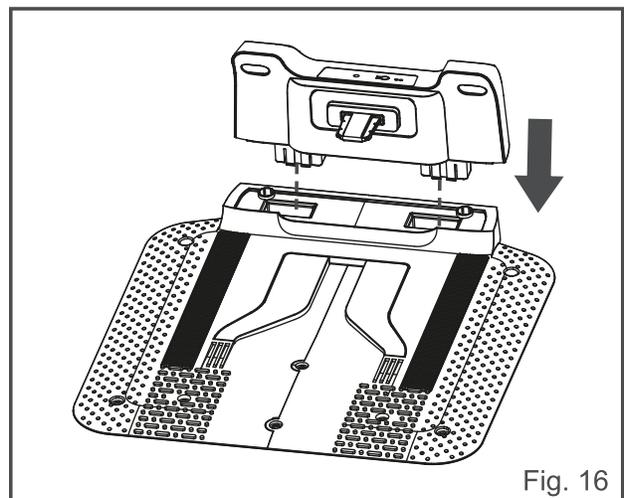

Fig. 16
- Fully insert the upper part of the base station onto the base. Ensure the upper part clicks firmly into place. Ensure the orange strips on the charging station base are facing up and clearly visible (Fig. 16).